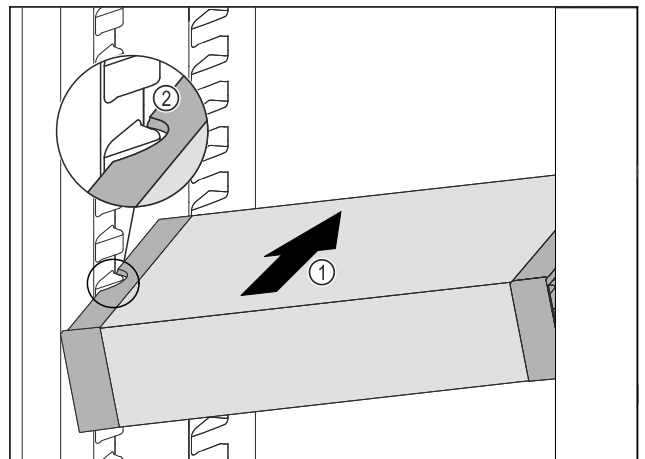

Fig. 54
- ▶ Insert the VarioSafe into the refrigerator compartment at an angle Fig. 54 (1) until the recesses in the side Fig. 54 (2) of the VarioSafe are at the level of the support rib in the refrigerator compartment.